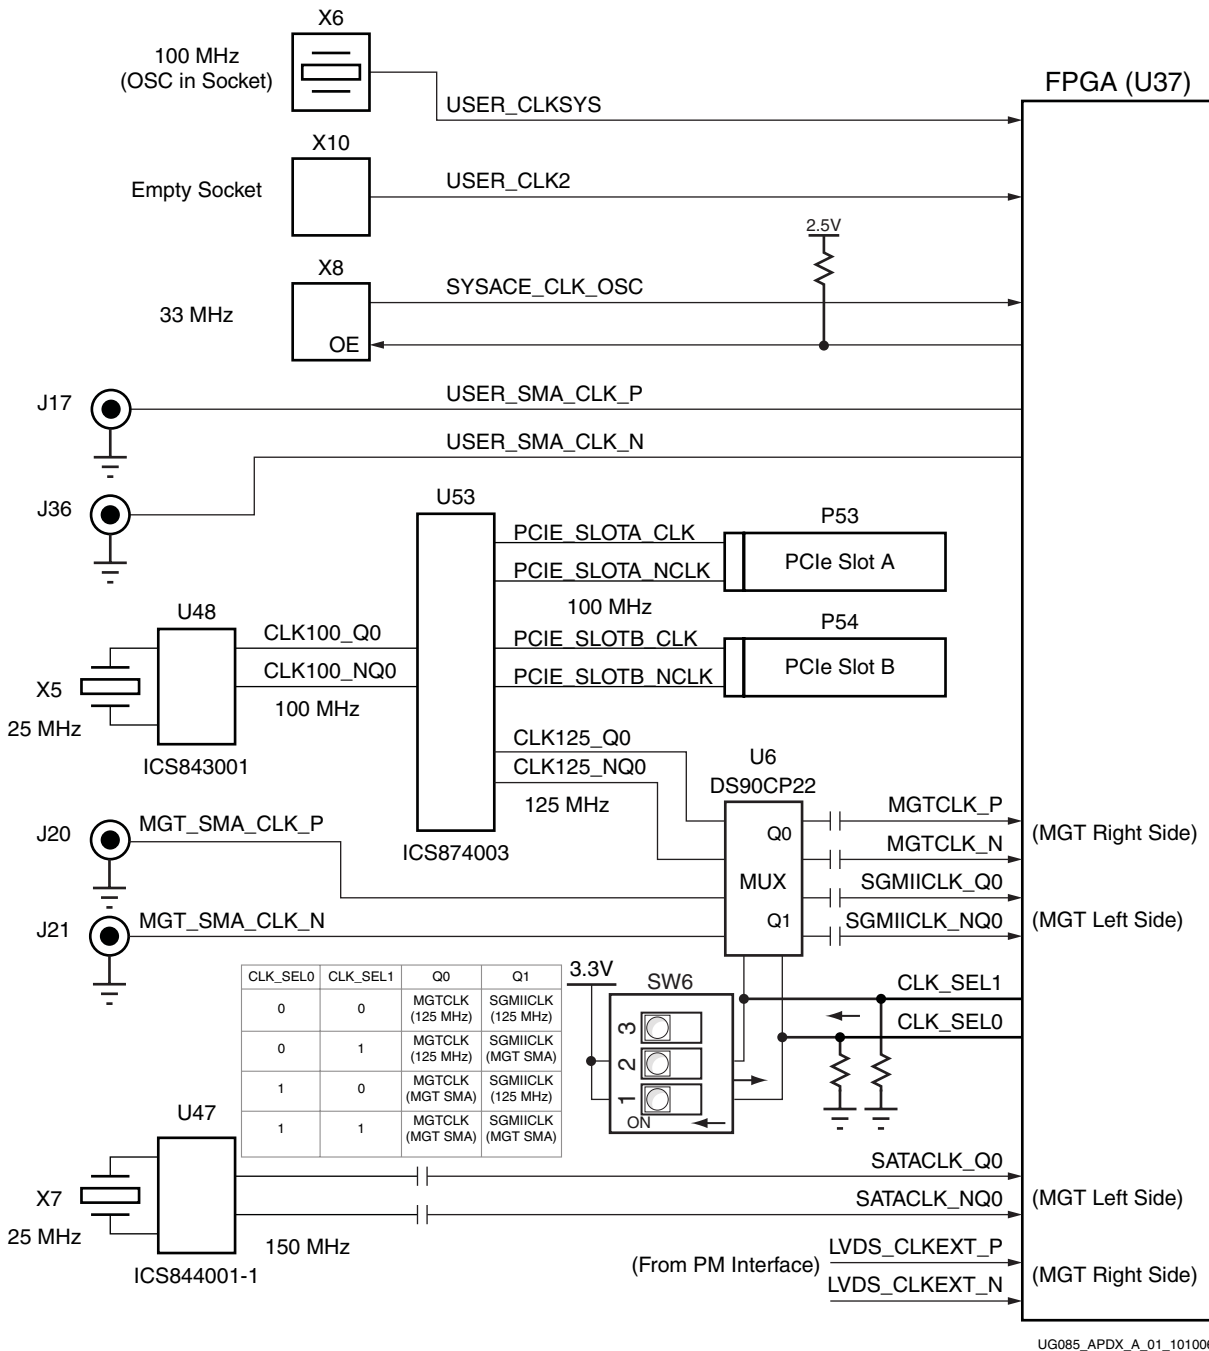

Figure A-1: Clock Distribution for Revisions C and D
- See Virtex-4 Errata regarding FX GT11 jitter and AR23392 regarding Virtex-4 FX GT11 jitter errata for SGMII. Refer to Figure A-1, page 98 for more details regarding clock distribution on Rev. C and Rev. D boards.
- See Virtex-4 Errata regarding FX GT11 jitter. Refer to Figure A-1, page 98 for more details regarding clock distribution on Rev. C and Rev. D boards.
The MGT and SATA clock generation and distribution for earlier board revisions (Figure A-1) differs from revision E (Figure 2-3, page 27).
5. These clocks are differential pairs through the RocketIO transceivers and are not available on ML410-P boards. See Figure A-1, page 98.